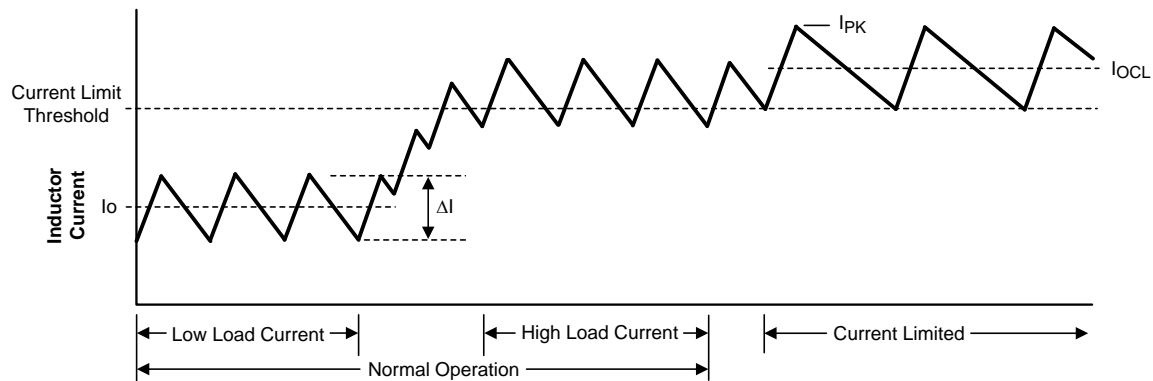

Figure 10. Inductor Current - Current Limit Operation
Current limit detection occurs during the off-time by monitoring the recirculating current through the internal current sense resistor (RSENSE). The detection threshold is 1.25A, ±0.25A. Referring to the Block Diagram, if the current into SGND during the off-time exceeds the threshold level the current limit comparator delays the start of the next on-time period. The next on-time starts when the current into SGND is below the threshold **and** the voltage at FB is below 2.5V. Figure 10 illustrates the inductor current waveform during normal operation and during current limit. The output current IO is the average of the inductor ripple current waveform. The Low Load Current waveform illustrates continuous conduction mode operation with peak and valley inductor currents below the current limit threshold. When the load current is increased (High Load Current), the ripple waveform maintains the same amplitude and frequency since the current falls below the current limit threshold at the valley of the ripple waveform. Note the average current in the High Load Current portion of Figure 10 is above the current limit threshold. Since the current reduces below the threshold in the normal off-time each cycle, the start of each on-time is not delayed, and the circuit's output voltage is regulated at the correct value. When the load current is further increased such that the lower peak would be above the threshold, the off-time is lengthened to allow the current to decrease to the threshold before the next on-time begins (Current Limited portion of Figure 10). Both VOUT and the switching frequency are reduced as the circuit operates in a constant current mode. The load current (IOCL) is equal to the current limit threshold plus half the ripple current (ΔI/2). The ripple amplitude (ΔI) is calculated from:
This provides a minimum value for L1 - the next higher standard value (100  $\mu$ H) will be used. To prevent saturation, and possible destructive current levels, L1 must be rated for the peak current which occurs if the current limit and maximum ripple current are reached simultaneously ( $I_{PK}$  in Figure 10). The maximum ripple amplitude is calculated by re-arranging Equation 12 using  $V_{IN(max)}$ ,  $F_{S(min)}$ , and the minimum inductor value, based on the manufacturer's tolerance. Assume, for this exercise, the inductor's tolerance is  $\pm 20\%$ .
**D1:** A Schottky diode is recommended. Ultra-fast recovery diodes are not recommended as the high speed transitions at the SW pin may inadvertently affect the IC's operation through external or internal EMI. The diode should be rated for the maximum  $V_{\text{IN}}$  (60V), the maximum load current (1A), and the peak current which occurs when current limit and maximum ripple current are reached simultaneously ( $I_{\text{PK}}$  in Figure 10), previously calculated to be 1.87A. The diode's forward voltage drop affects efficiency due to the power dissipated during the off-time. The average power dissipation in D1 is calculated from:
where  $0.11\Omega$  is the minimum value of the internal resistance from SGND to ISEN. The next smaller standard value resistor should be used for  $R_{CL}$ . With the addition of  $R_{CL}$ , and when the circuit is in current limit, the upper peak current out of the SW pin ( $I_{PK}$  in Figure 10) can be as high as: